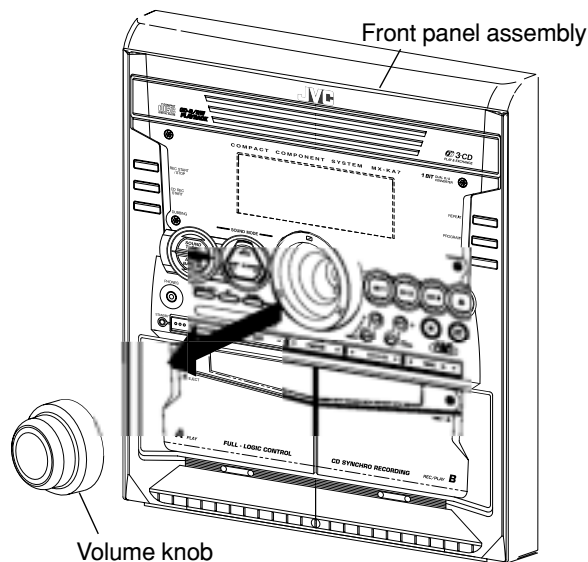

Fig.22
1. Pull out the volume control knob from the front of the front panel assembly.(Fig.22)